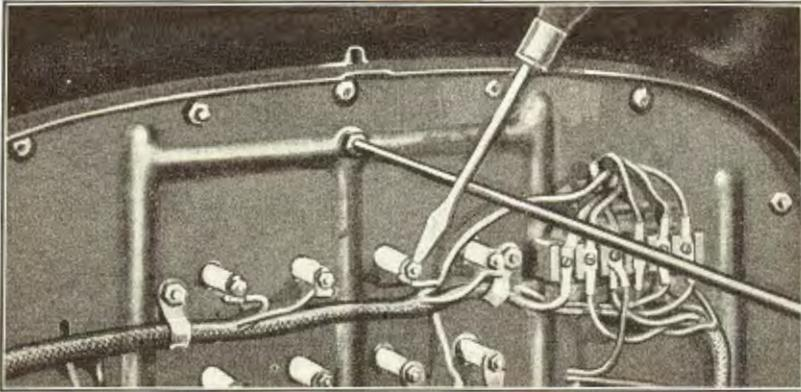

Fig. 503
- 1003** If no spark occurs when the above test is made, again hold the spark plug wire approximately $\frac{1}{8}$ " away from the engine, at the same time shorting the commutator terminal of the missing cylinder at the coil box by placing a screw driver on the terminal and resting it against the radiator stay rod (See Fig. 503). (The commutator ter-